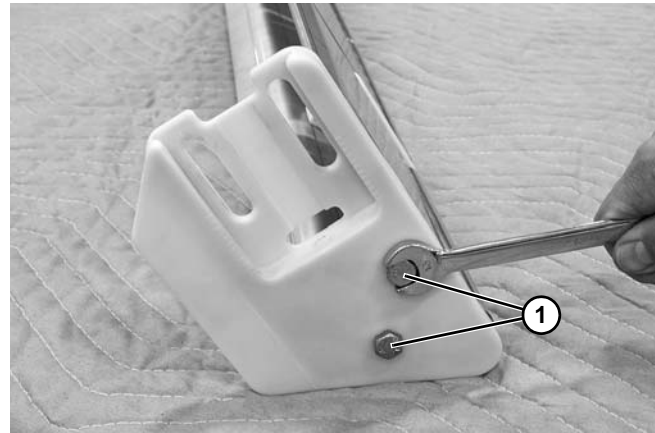

Figure 89
- Remove headplate screws (Figure 89, item 1).